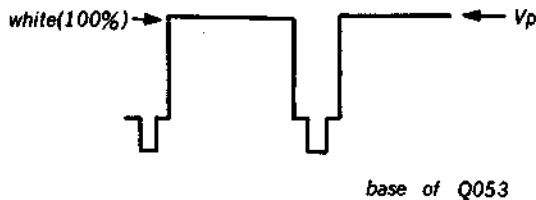

Fig. 5-13. Peak clip adjustment
- (1) In the Q053 base, the DC level of 100% white is considered as V_p . Adjust the Q052 base DC level by RV019 so that it is equal to $V_p + 0.15 \pm 0.05 \text{Vdc}$. (See Fig. 5-13)